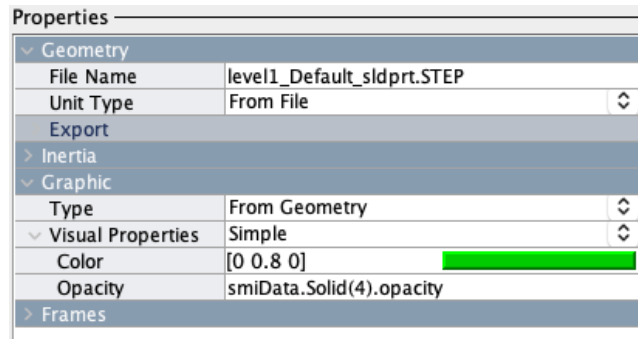

Figure 16: Color Change Property
- Within the “level1\_1\_RIGID”, open the “Solid” block. Under the properties, expand the “Graphic” then “Visual Properties” tabs. Enter in the color value of [0 0.8 0] into the “Color” field and apply the change. The resulting change should look as it does in figure 16.